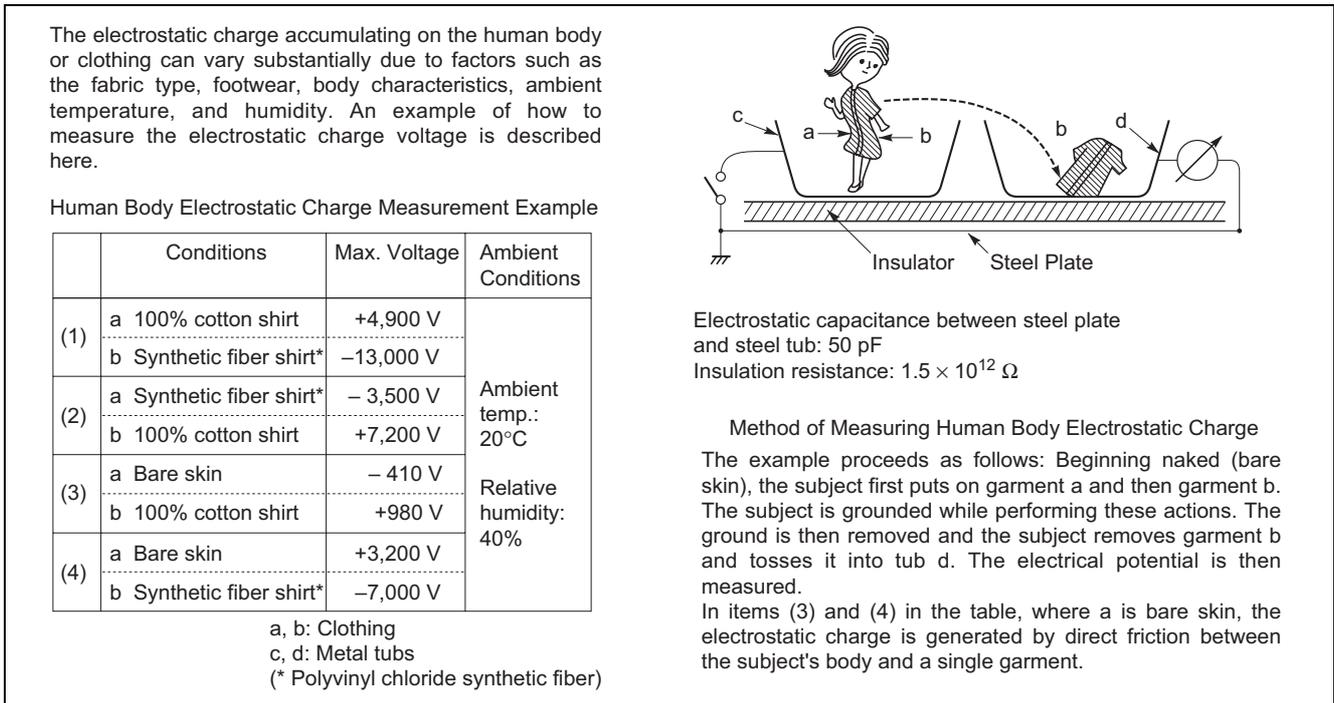

Figure 3 Human Body Electrostatic Charge Voltage Measurement Example
- (2) To prevent destruction of devices by electrostatic charges that have accumulated on people's bodies and clothing, electrostatic buildup should be discharged from persons handling devices to a ground via a high resistance. The resistance value should be about 1 MΩ. The resistor should be inserted between the person and the ground and located close to the person. It is also necessary to take precautions to prevent electrical shock. Human body electrostatic charge measurement data is shown in figure 3 for reference.
- (3) When moving items such as printed circuit boards with semiconductor devices mounted on them, it is necessary to take measures to prevent electrostatic buildup and to consider steps such as shorting the pins to equalize their electrical potential. In addition, when moving items such as printed circuit boards using conveyer belts, measures should be taken to prevent electrostatic buildup on the rubber of the belts, etc.
- (4) When transporting semiconductor devices and printed circuit boards, mechanical vibrations and shocks should be minimized as far as possible.